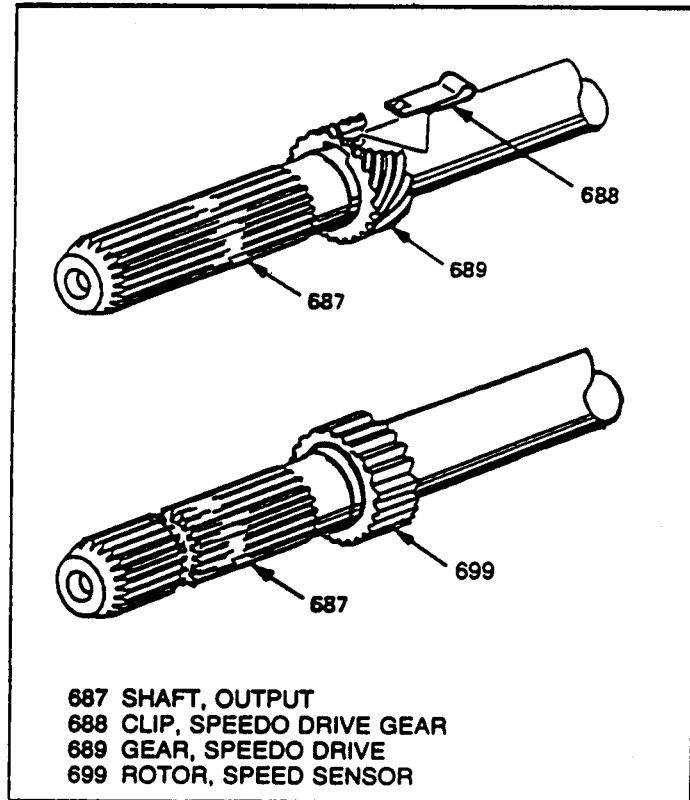

Figure 208
1. Install the speedometer drive gear and retaining clip onto the output shaft as shown in Figure 208.
2. NOT ALL MODELS USE THE SPEEDOMETER DRIVE GEAR. SOME MODELS USE SPEED SENSOR ROTOR, AS SHOWN FIGURE 208.
3. Install the metal speed sensor rotor, by pressing onto the output shaft, as shown in Figure 208, if so equipped.